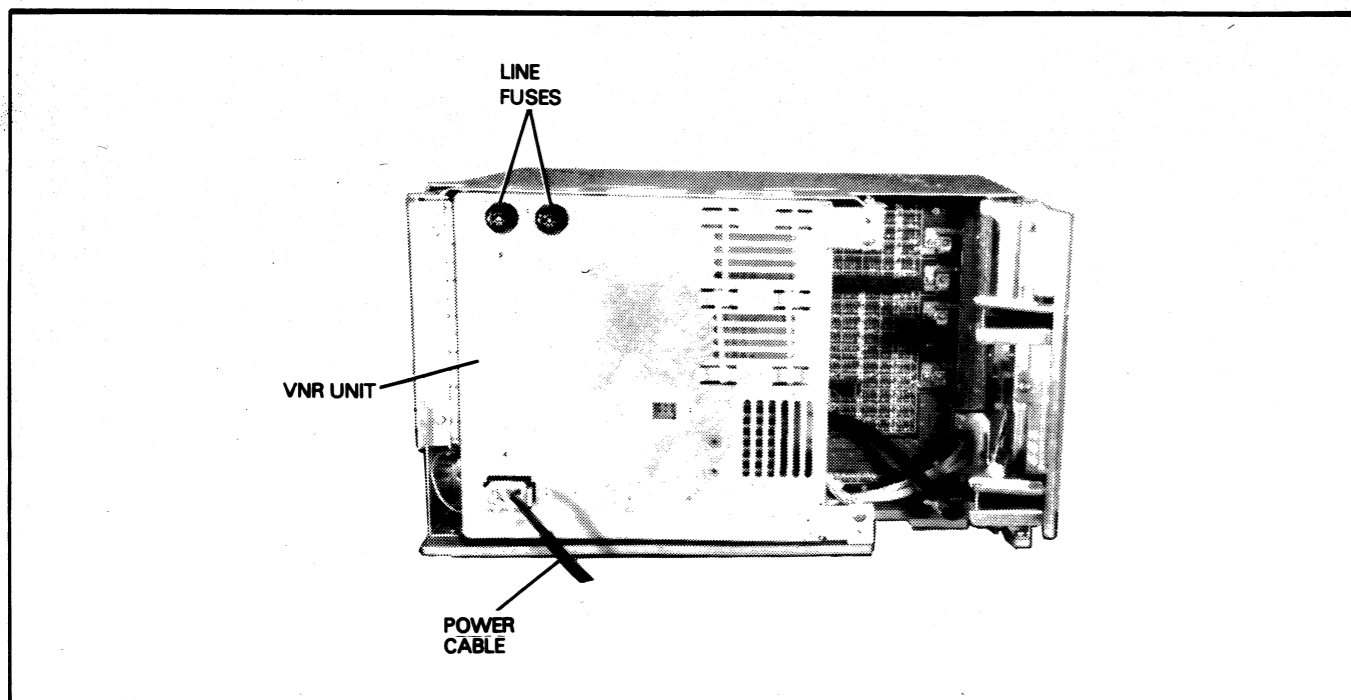
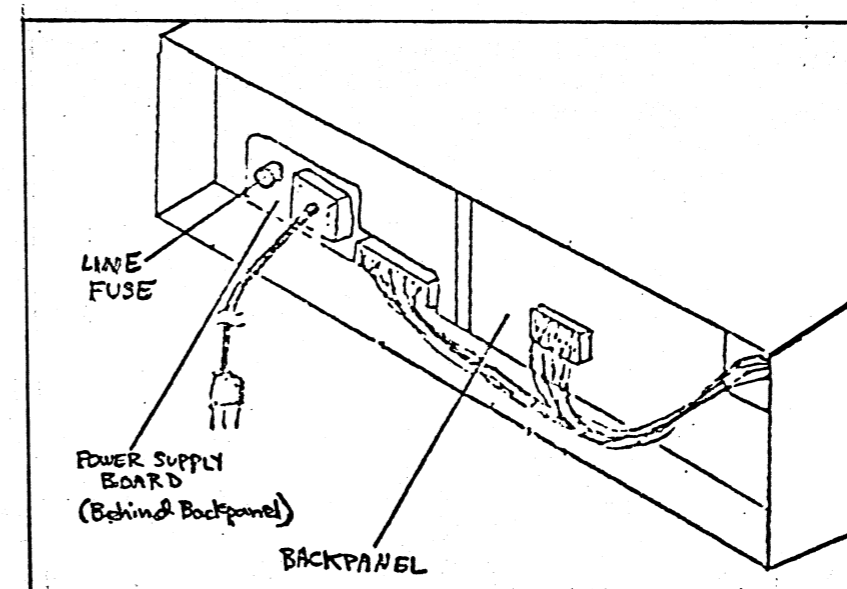

Figure 4.1 Line Fuses
Figure 4.2 Line Fuses
4. If you are repairing a system, check the ac line fuses and replace them if they are blown. The 16-slot power supply has two 15 Amp line fuses which screw into the rear of the VNR unit (see Figure 4.1). The 5-slot power supply has one 7 AMP line fuse which screws into the rear of the power supply board and extends through a cutout in the backpanel (see Figure 4.2).